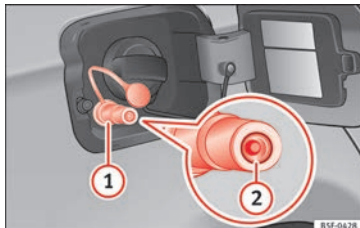

Fig. 246 Tank flap open: gas filler mouth (1), filler mouth retainer (2)
- Remove the plug from the gas filler mouth » » » Fig. 246 .